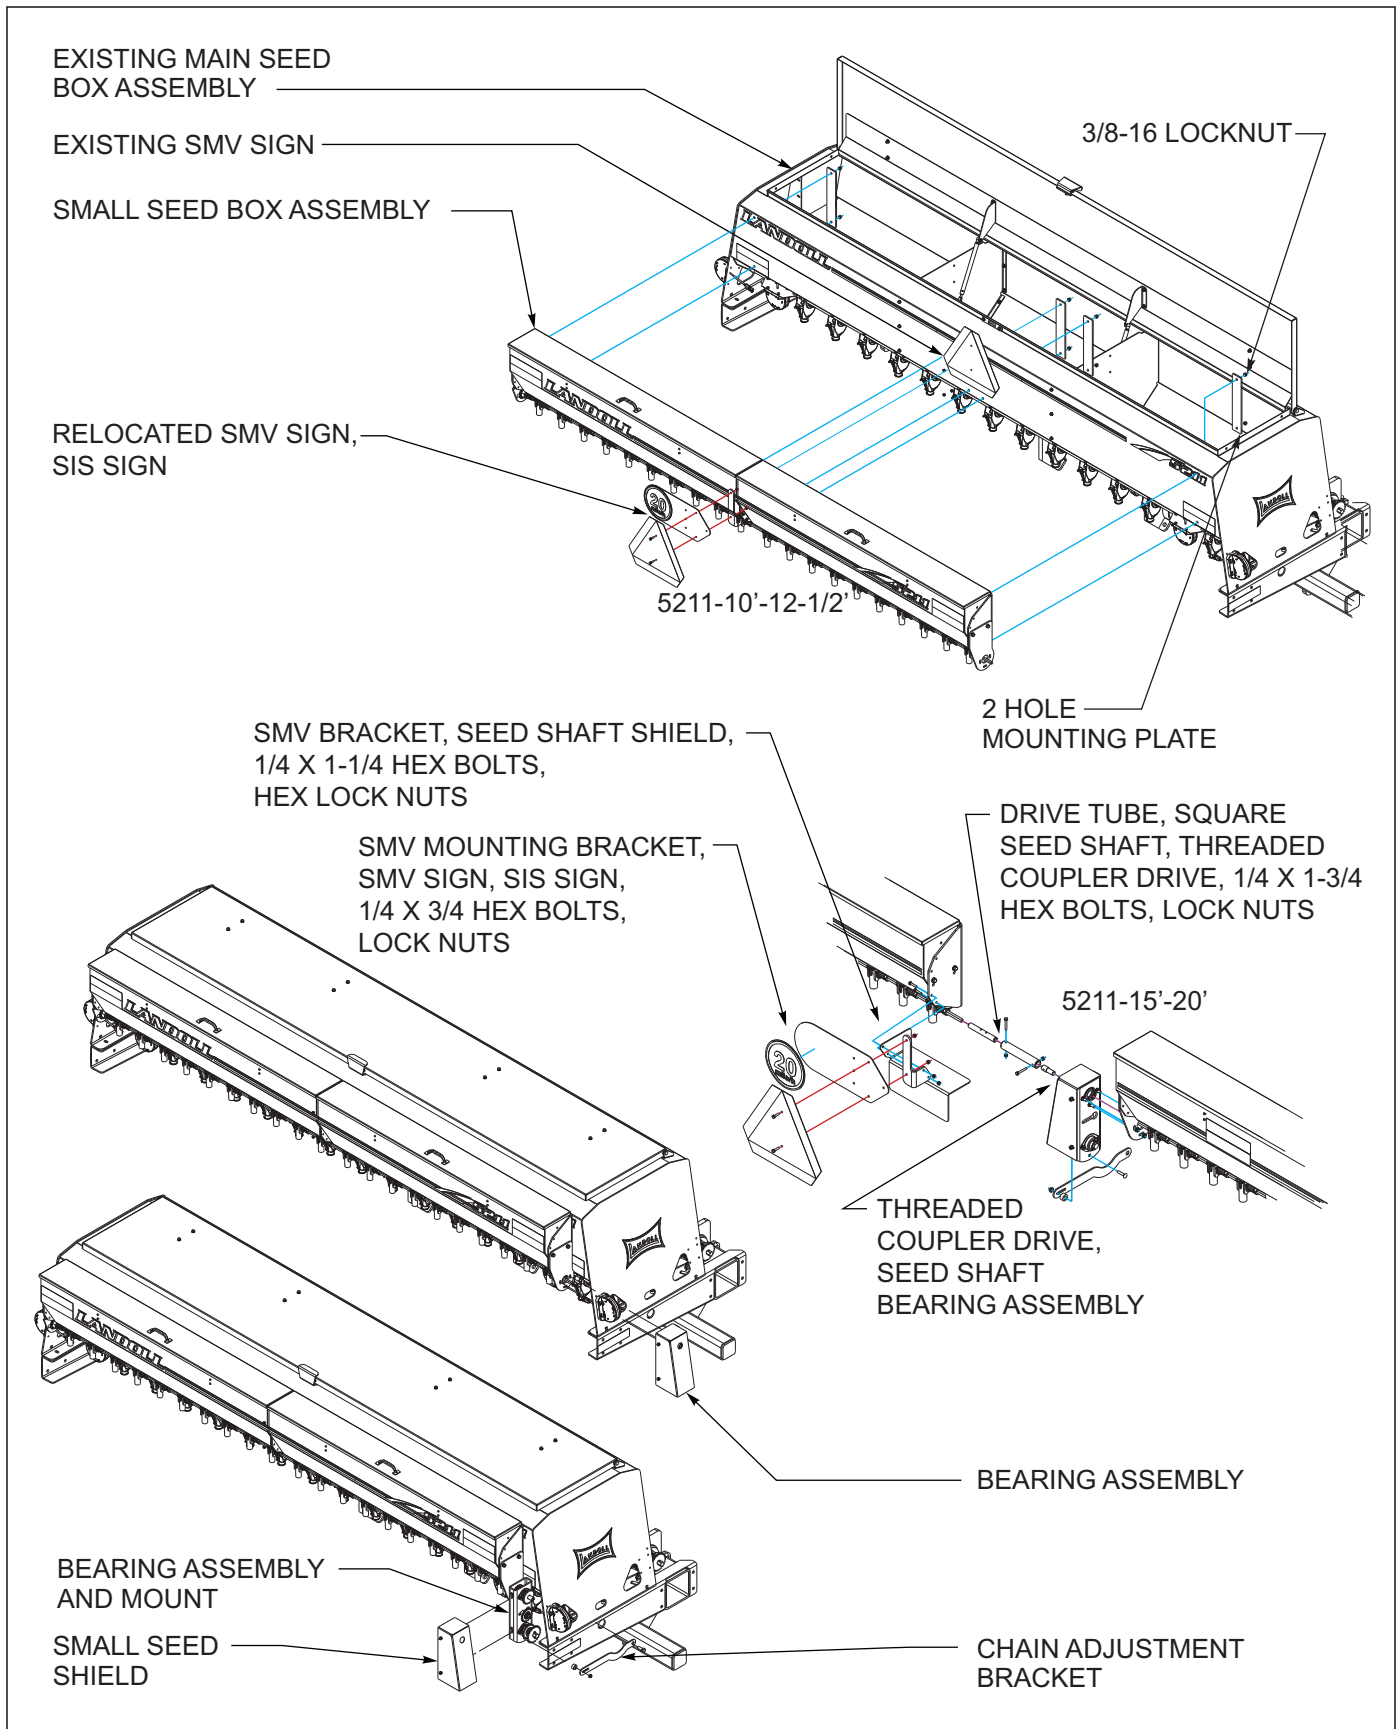

Figure 3-5: Small Seed Assembly Overview (12-1/2' Drill Shown)
See Figures 3-5 for small seed attachment overview. Use these instructions to install the optional small seed attachment to the rear main seed box of the 5211 Grain Drill.
4. Remove the 3/8" hex lock nuts and 2-hole mounting plates from the front of the small seed box assembly See Figure 3-5.
For 10' & 12-1/2' drills **See Figure 3-5** - If the drill has the optional dry fertilizer attachment, the grass seed bracket and bearing will not be used, **go to step 13.**
17. For 15' & 20' drills **See Figure 3-5** – Screw the threaded coupler drive into the open end of the seed shaft bearing assembly. Slide the square end of the drive tube over the square seed shaft of the left small seed box. Connect the drive tube and threaded coupler drive with the 6" shaft coupler using 1/4-20 x 1-3/4 hex head cap screws and hex lock nuts.